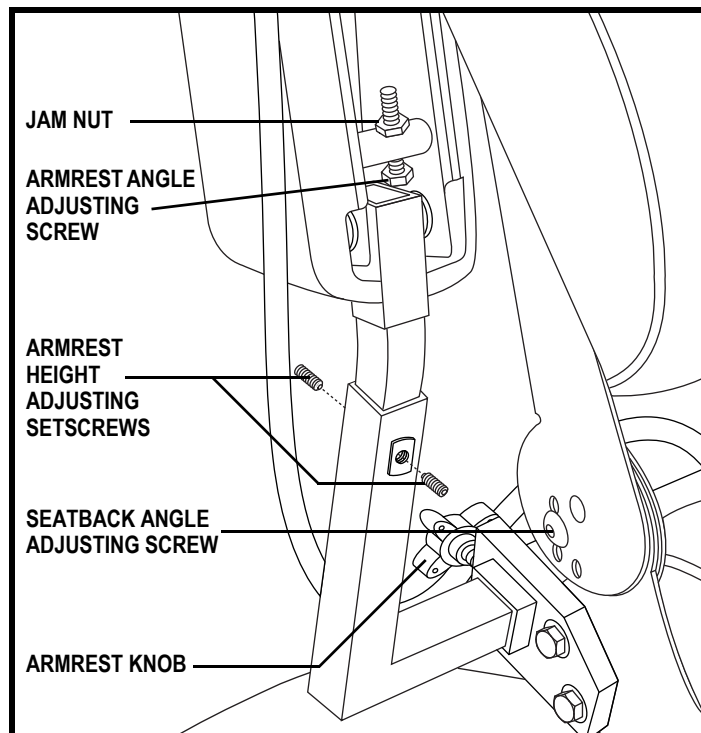

Figure 17. Seatback/Armrest Adjustment
1. Remove the adjusting screws from each seat hinge. **See figure 17.**
1. Locate the two armrest knobs on each side of the armrest receiver bracket. **See figure 17.**
1. Lift the armrest straight up so that it is perpendicular to the floor. **See figure 17.**
1. Loosen the two setscrews located on the armrest receiver. **See figure 17.**